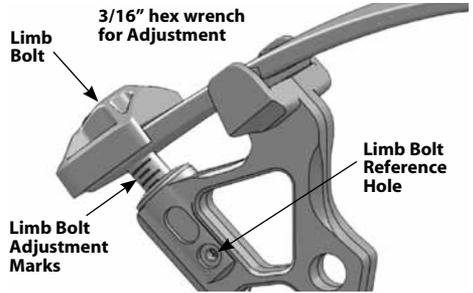

Figure 3. Atomic Draw Weight Adjustment
A new limb bolt design for draw weight adjustment has been introduced by Diamond this year. The limb bolt has been marked with increments to help you set up your bow. Each mark is reflective of approximately 8% of the bows original peak weight. Every bow configuration as seen in Table 1 has a slightly different result so therefore please consult your maximum and minimum draw weights available for each. This new feature is also a useful tool in keeping the limb bolts equal on both the top and bottom of your bow when you are adjusting draw weight. **As a safety precaution, the limb bolts should never be backed out beyond the limb bolt reference hole on the riser while the bow is being shot. Please reference Figure 3.**
1. Before adjusting limb bolts, note setting on limb bolt adjustment marks for future reference. **(See Figure 3).**